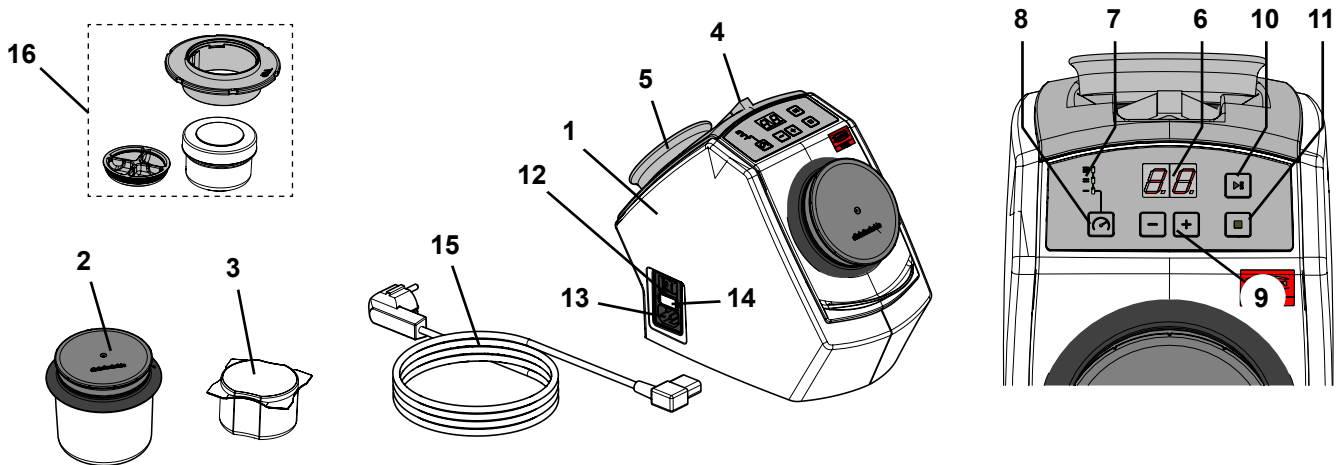

Fig. 1
- ▶ The retaining magnet (Fig. 1, Pos. 5) contains lead.
- ⇒ Place the tweezers supplied with the unit and the retaining magnets in the holder on the back of the appliance (Fig. 1).
- ⇒ Choose a power cable (15, Fig. 1) with the proper plug for your mains supply.
- ⇒ Connect the power cable (13, Fig. 1) to the power supply.
- ⇒ Turn on the appliance at the mains switch (12, Fig. 1).
- ⇒ Fill the cleaning beaker (2, Fig. 1) with 75 g cleaning pins (corresponds to one packaging unit).
- ⇒ Fill the SYMPRO mini cup (accessory) (16, Fig. 1) with ~ 5 g cleaning pins